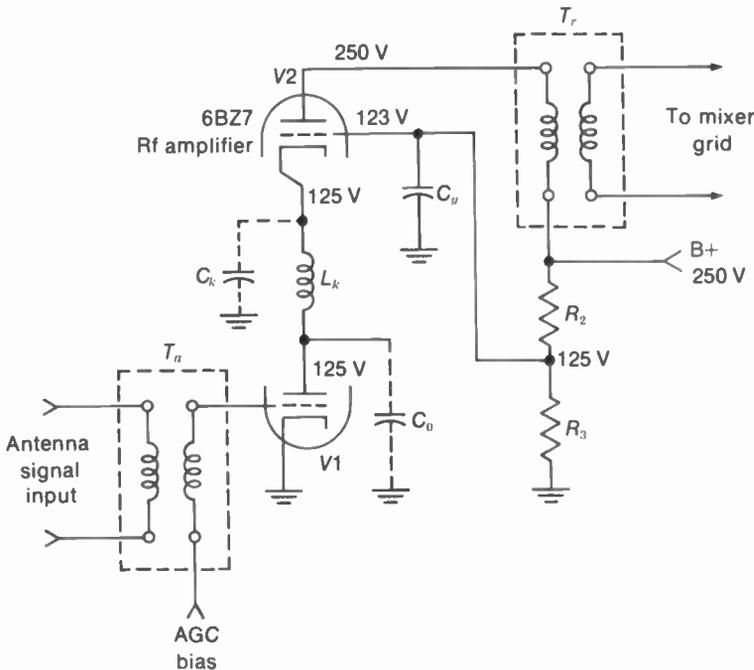
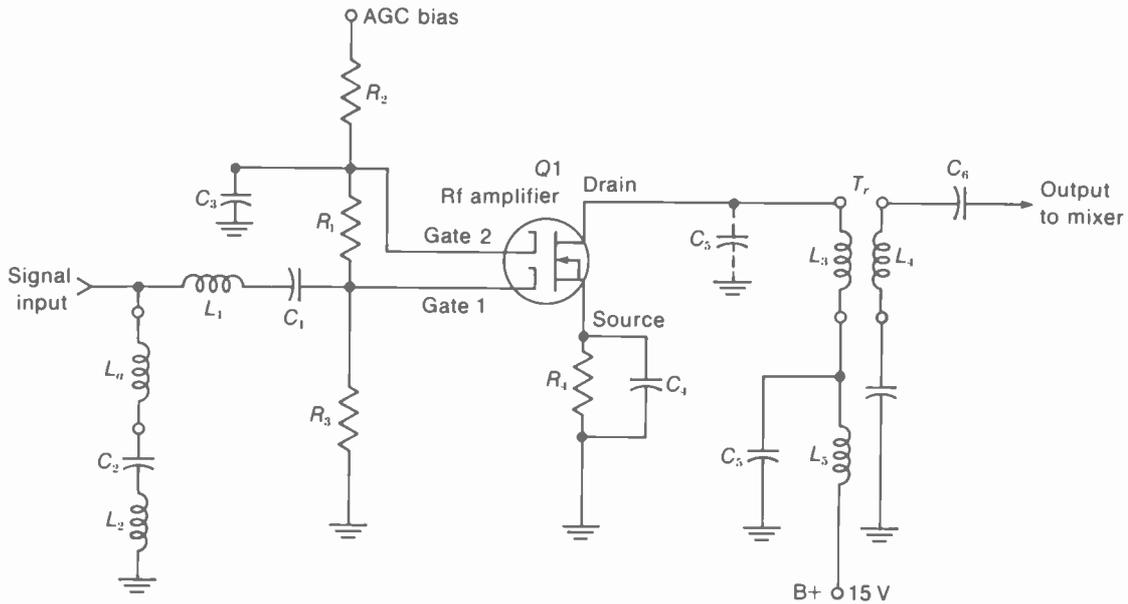

FIGURE 24-12 CASCODE RF AMPLIFIER CIRCUIT USING TWIN-TRIODE WITH DC COUPLING.
FIGURE 24-13 RF AMPLIFIER USING FET WITH DUAL GATES.
The transistor stage in Fig. 24-9, the triode tube in Fig. 24-11, the cascode twin-triode in Fig. 24-12, and the dual-gate field-effect transistor (FET) in Fig. 24-13 are typical. Common triode tubes for the rf amplifier are the 6DS4 nuvistor, 6HA5, 2FH5, and 3GK5. Triodes generate less tube noise than pentodes because the internal
**Cascode rf amplifier circuit.** See Fig. 24-12. A twin-triode tube combines a grounded-cathode stage V1 driving V2 as a grounded-grid amplifier. The V1 stage has AGC bias, which is dc-coupled to V2. This circuit has the gain of a pentode but the low noise of a triode. The V1 stage is not neutralized because it has a very low plate load impedance. Most of the gain is in the grounded-grid stage V2, which needs no neutralization.
**FET rf amplifier.** The circuit in Fig. 24-13 uses a field-effect transistor (FET) with dual gates for its N channel. An FET features very high input impedance, compared with junction transistors, and has low noise. The drain electrode corresponds to the plate or collector, the gate is like the control grid or base, and the source has the function of the cathode or emitter. The main advantage of an FET or amplifier is that it can operate without overload distortion for a wide range of signal input voltages.